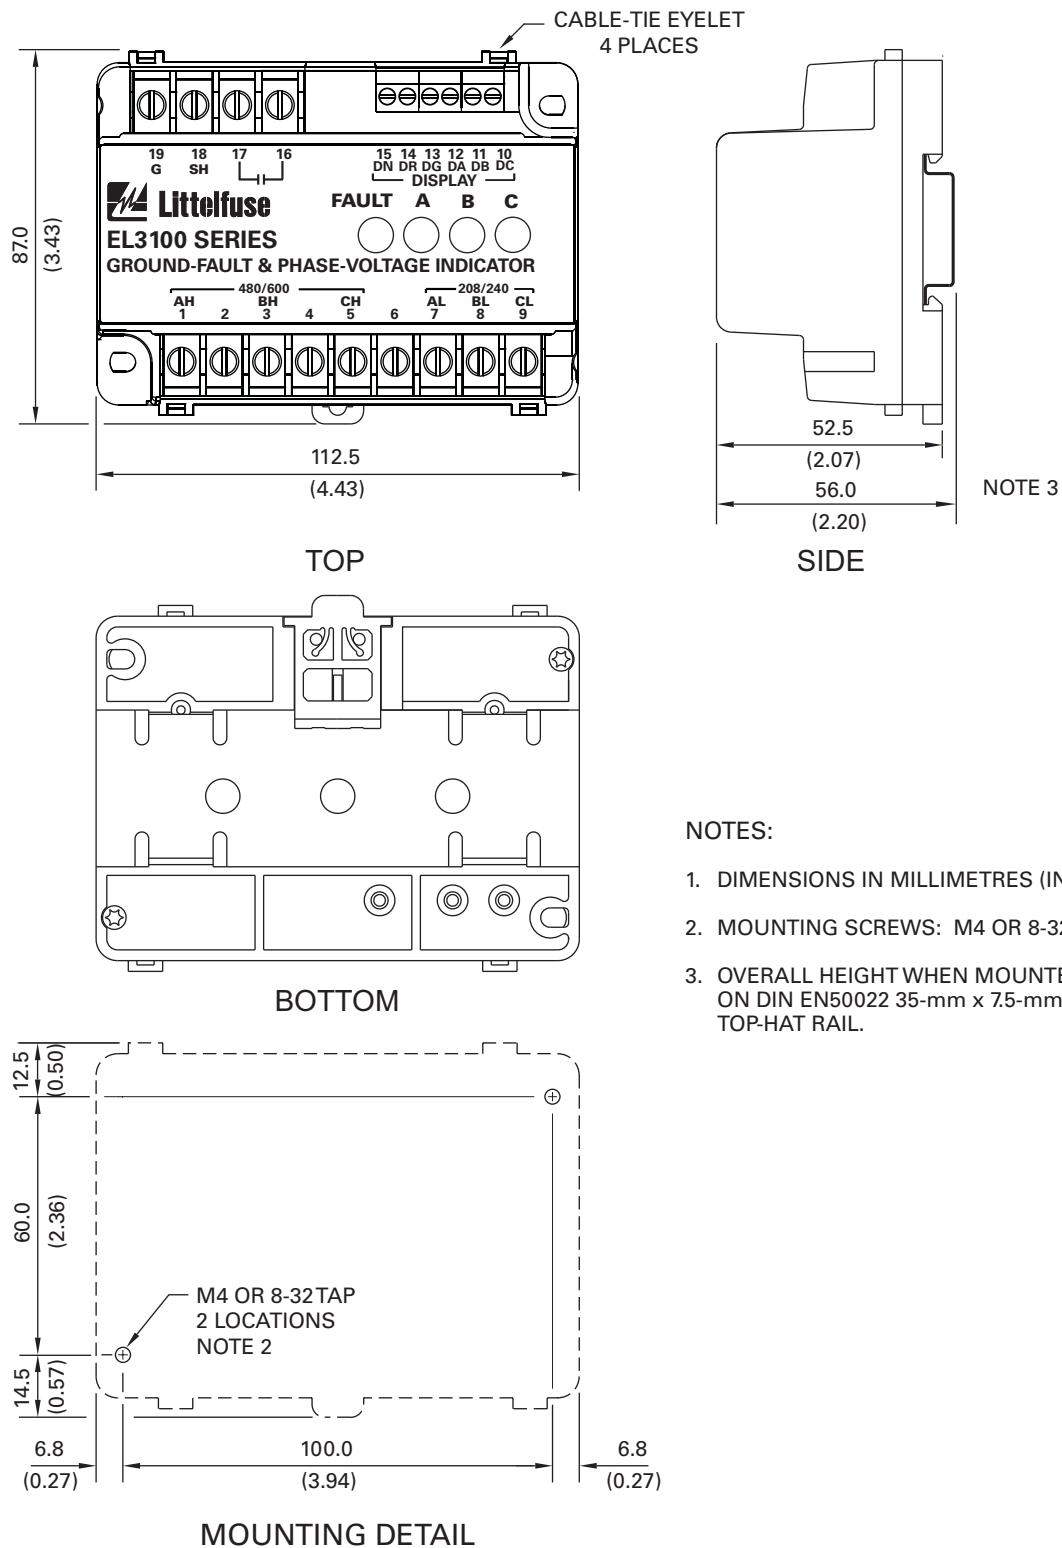
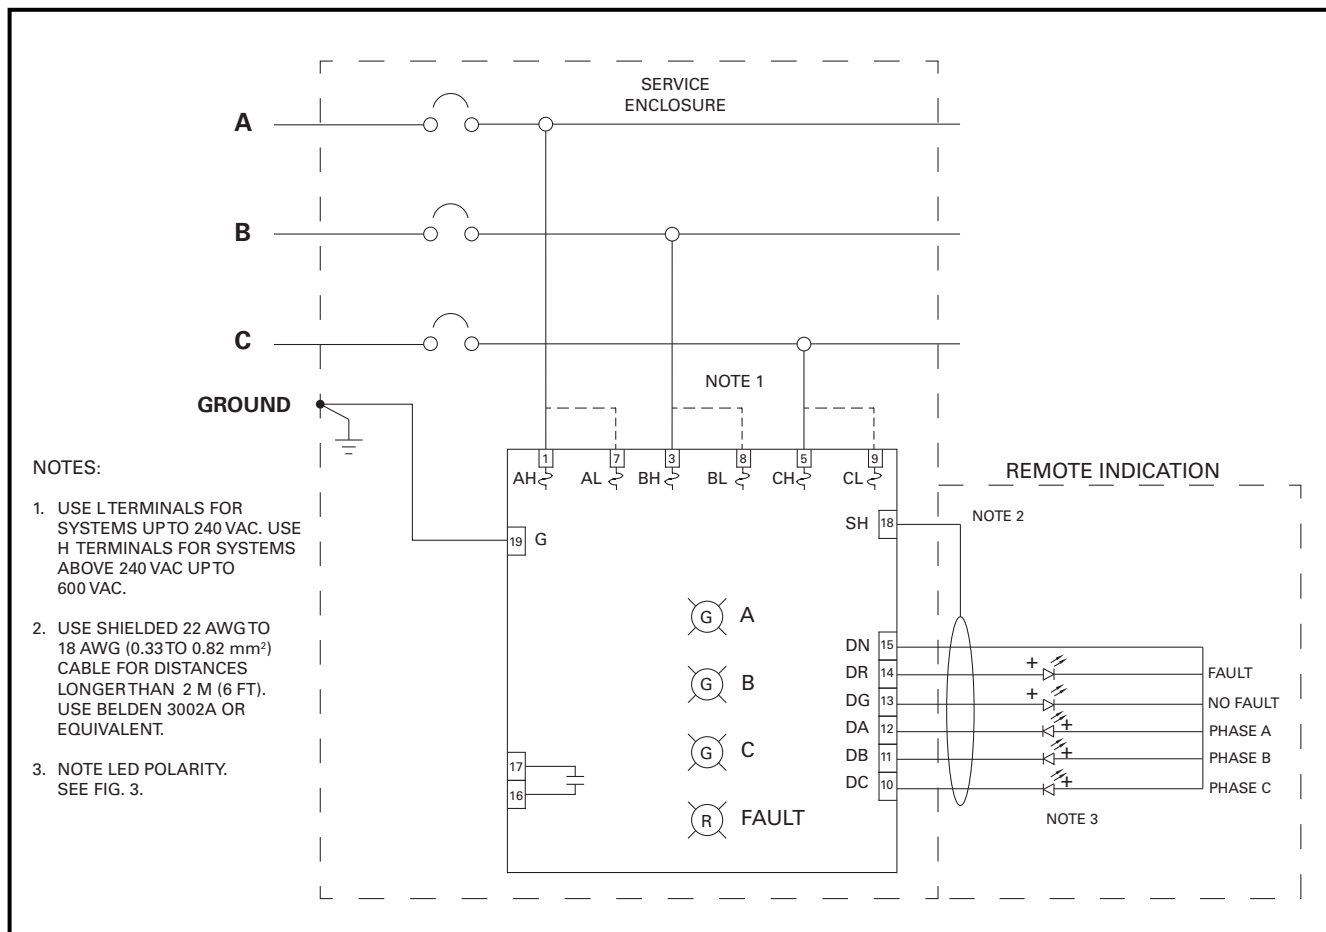

FIGURE 1. EL3100 Series Outline and Mounting Details.
FIGURE 2. Connection Diagram.
Terminals 10 through 15 are used for remote LED indication. High-intensity LED's with no internal resistors are required. See Section 7 for ordering information. Fig. 2 illustrates a remote LED application where all LED's are used.
Outline and mounting details of the EL3100 are shown in Fig. 1. For 208- or 240-Vac systems use terminals AL (7), BL (8), and CL (9). For systems above 240 Vac and up to 600 Vac, use terminals AH (1), BH (3), and CH (5). Connect bonding terminal (G) to ground. See Fig. 2. Terminals 2, 4, and 6 are not used.
**NOTE:** Bonding terminal (G) must be connected to ground for correct fault indication and to ensure that fault potential is not transferred to the display.